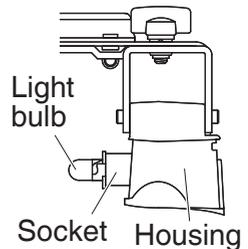

Fig. 29
- (3) Remove the light bulb from the socket (**Fig. 29**).
- When attaching the socket to the handle cover, align the socket with the hole of housing while watching the back of the socket shown in **Fig. 29**, and insert the socket until it lightly bumps against the handle cover.